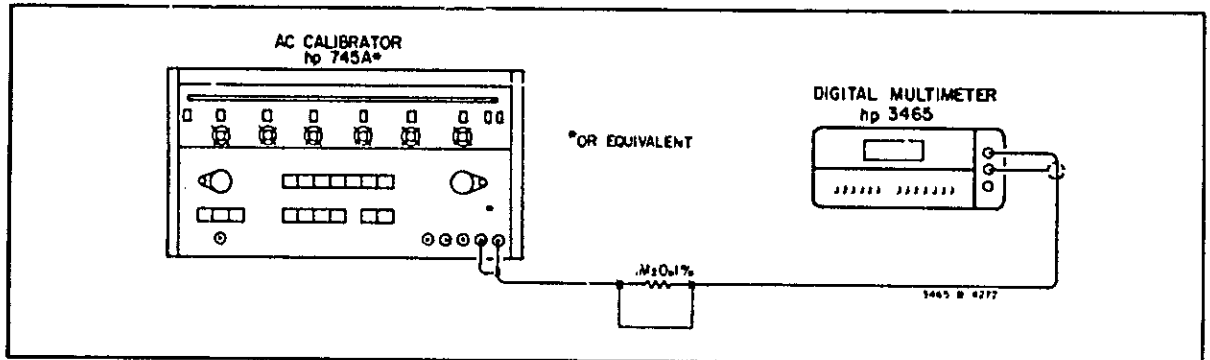

Figure 5-8. AC Voltmeter Input Impedance Test.
- a. Connect the AC Calibrator and a 1 MΩ resistor as shown in Figure 5-8. Connect a jumper across the resistor.